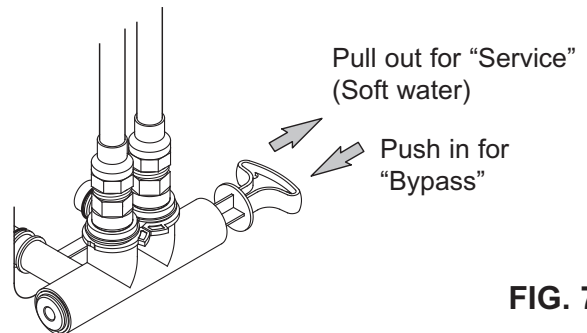
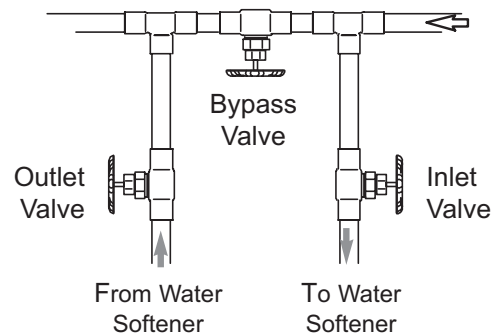

FIG. 7
FIG. 8
Always install either a single bypass valve (provided), as shown in Figure 7, or, if desired, parts for a 3 valve bypass system (not included) can be purchased and assembled, as shown in Figure 8. Bypass valves allow you to turn off water to the softener for maintenance if needed, but still have water in house pipes.
CAUTION: The house cold water pipe (metal only) is often used as a ground for the house electrical system. The 3-valve bypass type of installation, shown in Figure 8, will maintain ground continuity. If you use a plastic bypass valve at the unit, continuity is broken. To restore the ground, do the following:
2. Place the bypass valve (single or 3 valve) into the "bypass" position. See Figures 7 & 8 on Page 7.